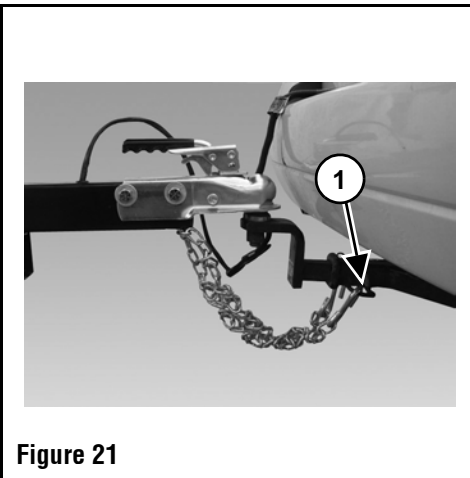

Figure 21
8. Connect both safety cables to the vehicle safety chain loops. (Item 1). (Figure 21)